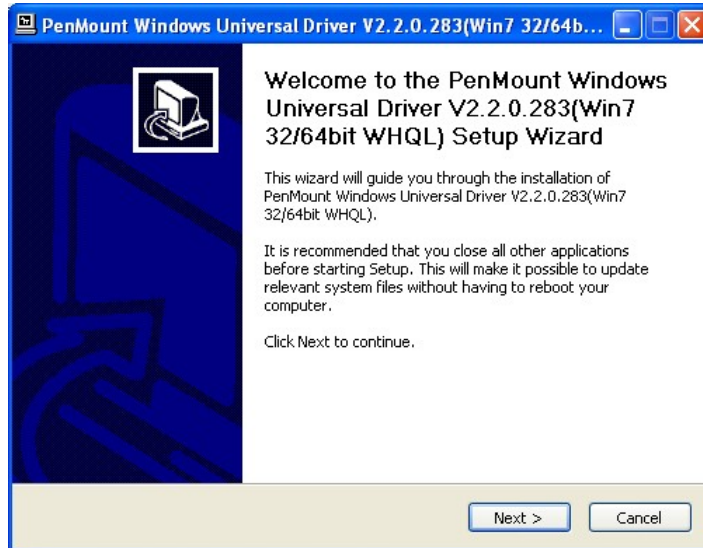

Figure 7-2: Welcome Screen
Step 5: The Welcome screen in **Figure 7-2** appears.